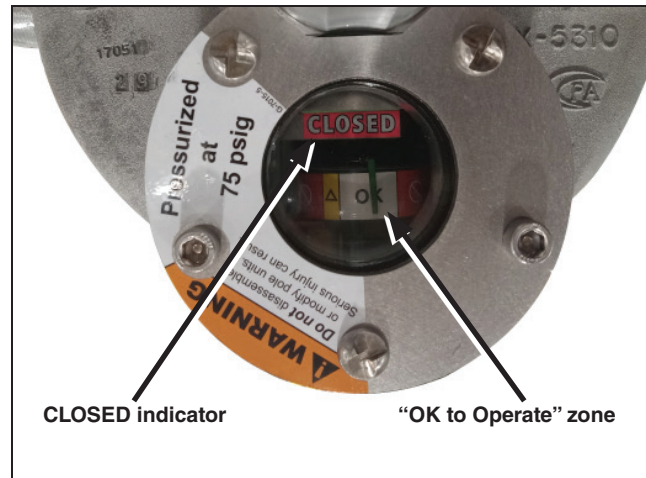

Figure 12. Interrupter is closed and charged. The indicator reads “CLOSED.” The gas-pressure gauge needle is in the white OK to Operate zone.
- STEP 1.** Verify each interrupter is in the **Closed** position and the gas-pressure gauge is in the OK to Operate zone. See Figure 12. Verify the circuit-switcher disconnect is in the **Open** position.